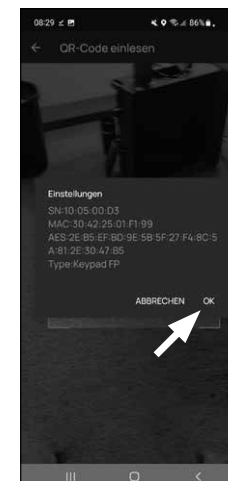

Fig. 9
- After the QR code has been scanned, a message appears containing data regarding your cylinder; confirm this with "OK" at the bottom right (Fig. 9).